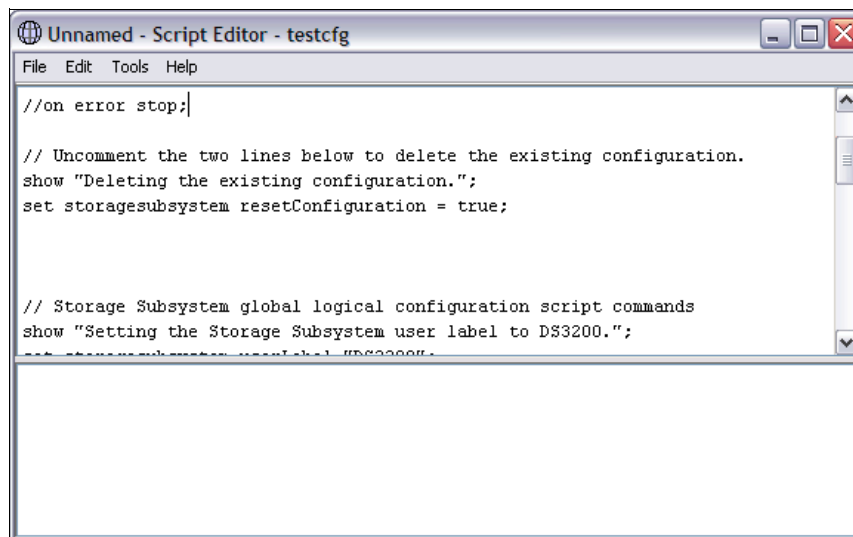

Figure 6-6 Uncomment lines to delete the existing configuration before uploading a new one
- b. If you want to restore your subsystem's configuration before the new one is uploaded, select **Edit** and look in the Script Editor for the lines shown in Figure 6-6 and uncomment them. After uncommenting these two lines, select **Tools** → **Verify** → **Execute** from the Menu bar to execute the script and upload the new configuration.